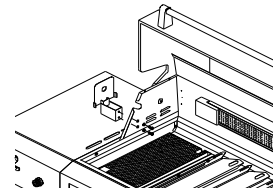

Fig. 1
1. Install motor bracket onto the side of the grill firebox. (See Fig. 1).